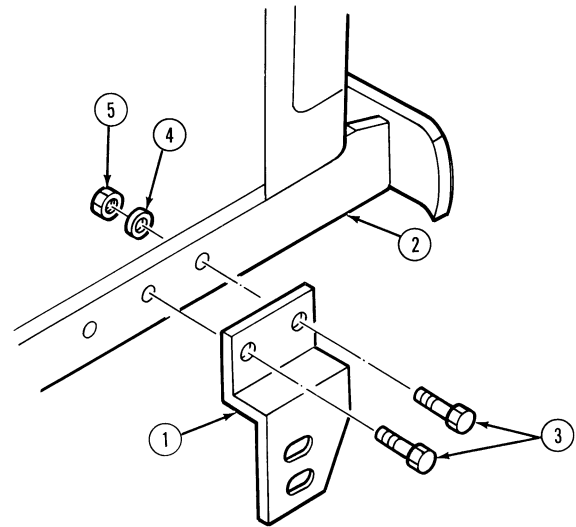
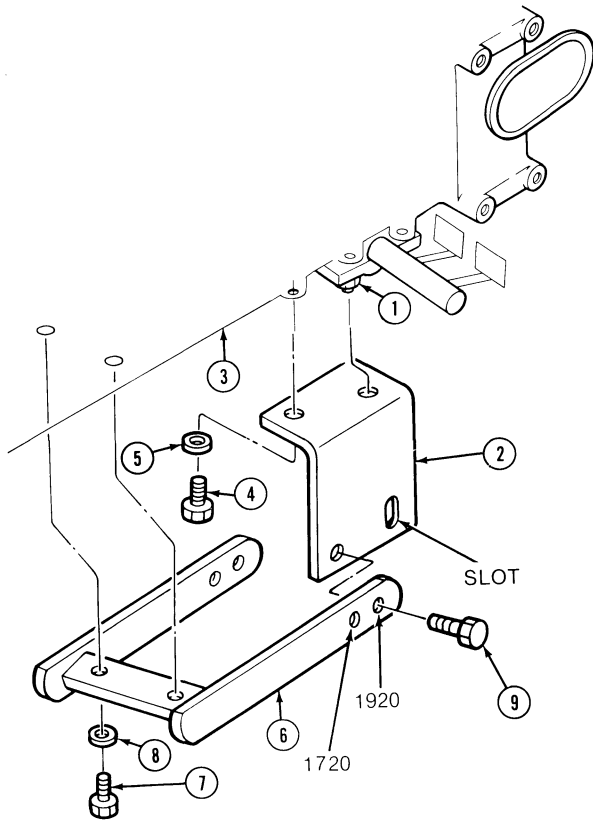
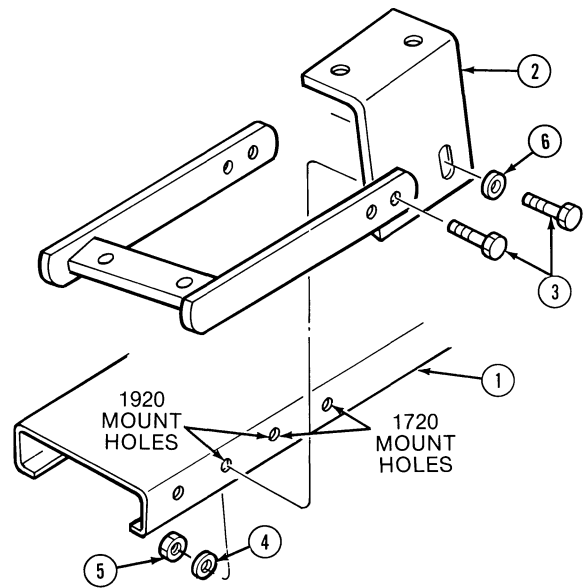

Figure 8
Figure 9
Figure 10
- Using the tractor frame hole combination nearest to the tractor bumper, attach the front mounting brackets, (1), Figure 8, using four 1/2" NF x 2" hex hd. bolts, (3), lockwashers, (4), and nuts, (5). Do not tighten the bolts at this time.
- Before the rear mounting bracket can be attached the existing two M10 bolts, (1), Figure 9, at the rear of the brake/clutch support brackets must be removed. They are located on the underside mid section of the tractor.
- Attach the right and left rear mounting brackets, (2), Figure 9, (slot to front) to the underside mid section of the tractor, (3), using four M10 x 1.50 x 35 mm hex hd. bolts, (4), lockwashers, (5), and stud and thread sealer. Do not tighten the bolts at this time.
- Depending on the tractor model (1720 or 1920), insert two 5/8" NF x 2" hex hd. bolts, (9), through proper hole in rear assist bracket, (6), and back hole in the rear mounting bracket, (2), as shown in Figure 9. Do not attach lockwashers and nuts at this time. Attach the rear assist bracket, (6), to the underside rear section of the tractor, (3), using two M16 x 2.00 x 40 mm hex hd. bolts, (7), lockwashers, (8), and stud and thread sealer. Do not tighten bolts at this time.
IMPORTANT: Torque the M10 dia. bolts, (4), Figure 9, to 47-51 lbs.-ft.
- Select the proper hole in the rear frame, (1), Figure 10, depending on the tractor model (1720-1920). Attach the rear frame, (1), Figure 10, to the rear mounting bracket, (2), using two 5/8" NF x 2" hex hd. bolts, (3), lockwashers, (4), and nuts, (5). Do not tighten at this time.
4. Attach the rear frame, (1), to the front hole in the rear mounting bracket using two 5/8" NF x 2" hex hd. bolts, (3), spacers, (6), lockwashers, (4), and nuts, (5), as shown in Figure 10. Use spacer, (6), over each slotted hole, as shown in Figure 10.
IMPORTANT: Torque the 5/8" dia. bolts, (3), (Figure 10 and 11) to 150-180 lbs.-ft. Torque the 1/2" dia. bolts, (3), (Figure 8) to 80-96 lbs.-ft. Torque the M16 dia. bolts, (4), (Figure 9) to 129-145 lbs.-ft.